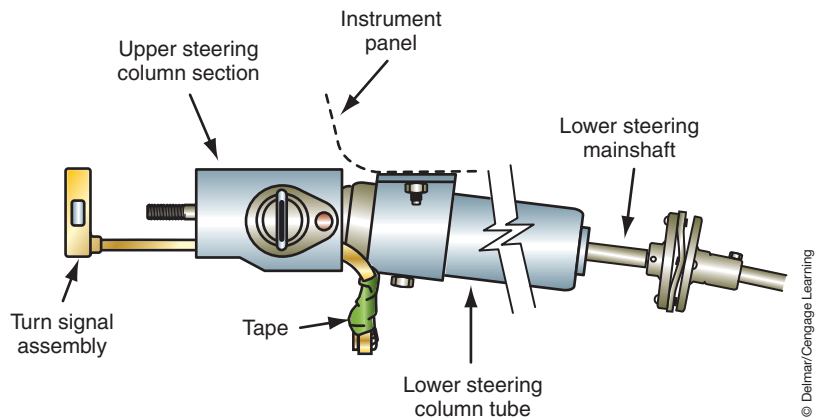

FIGURE 8-36 Tape the turn signal connector to make removal easier.
12. Wrap tape around the wire and connector (Figure 8-36).